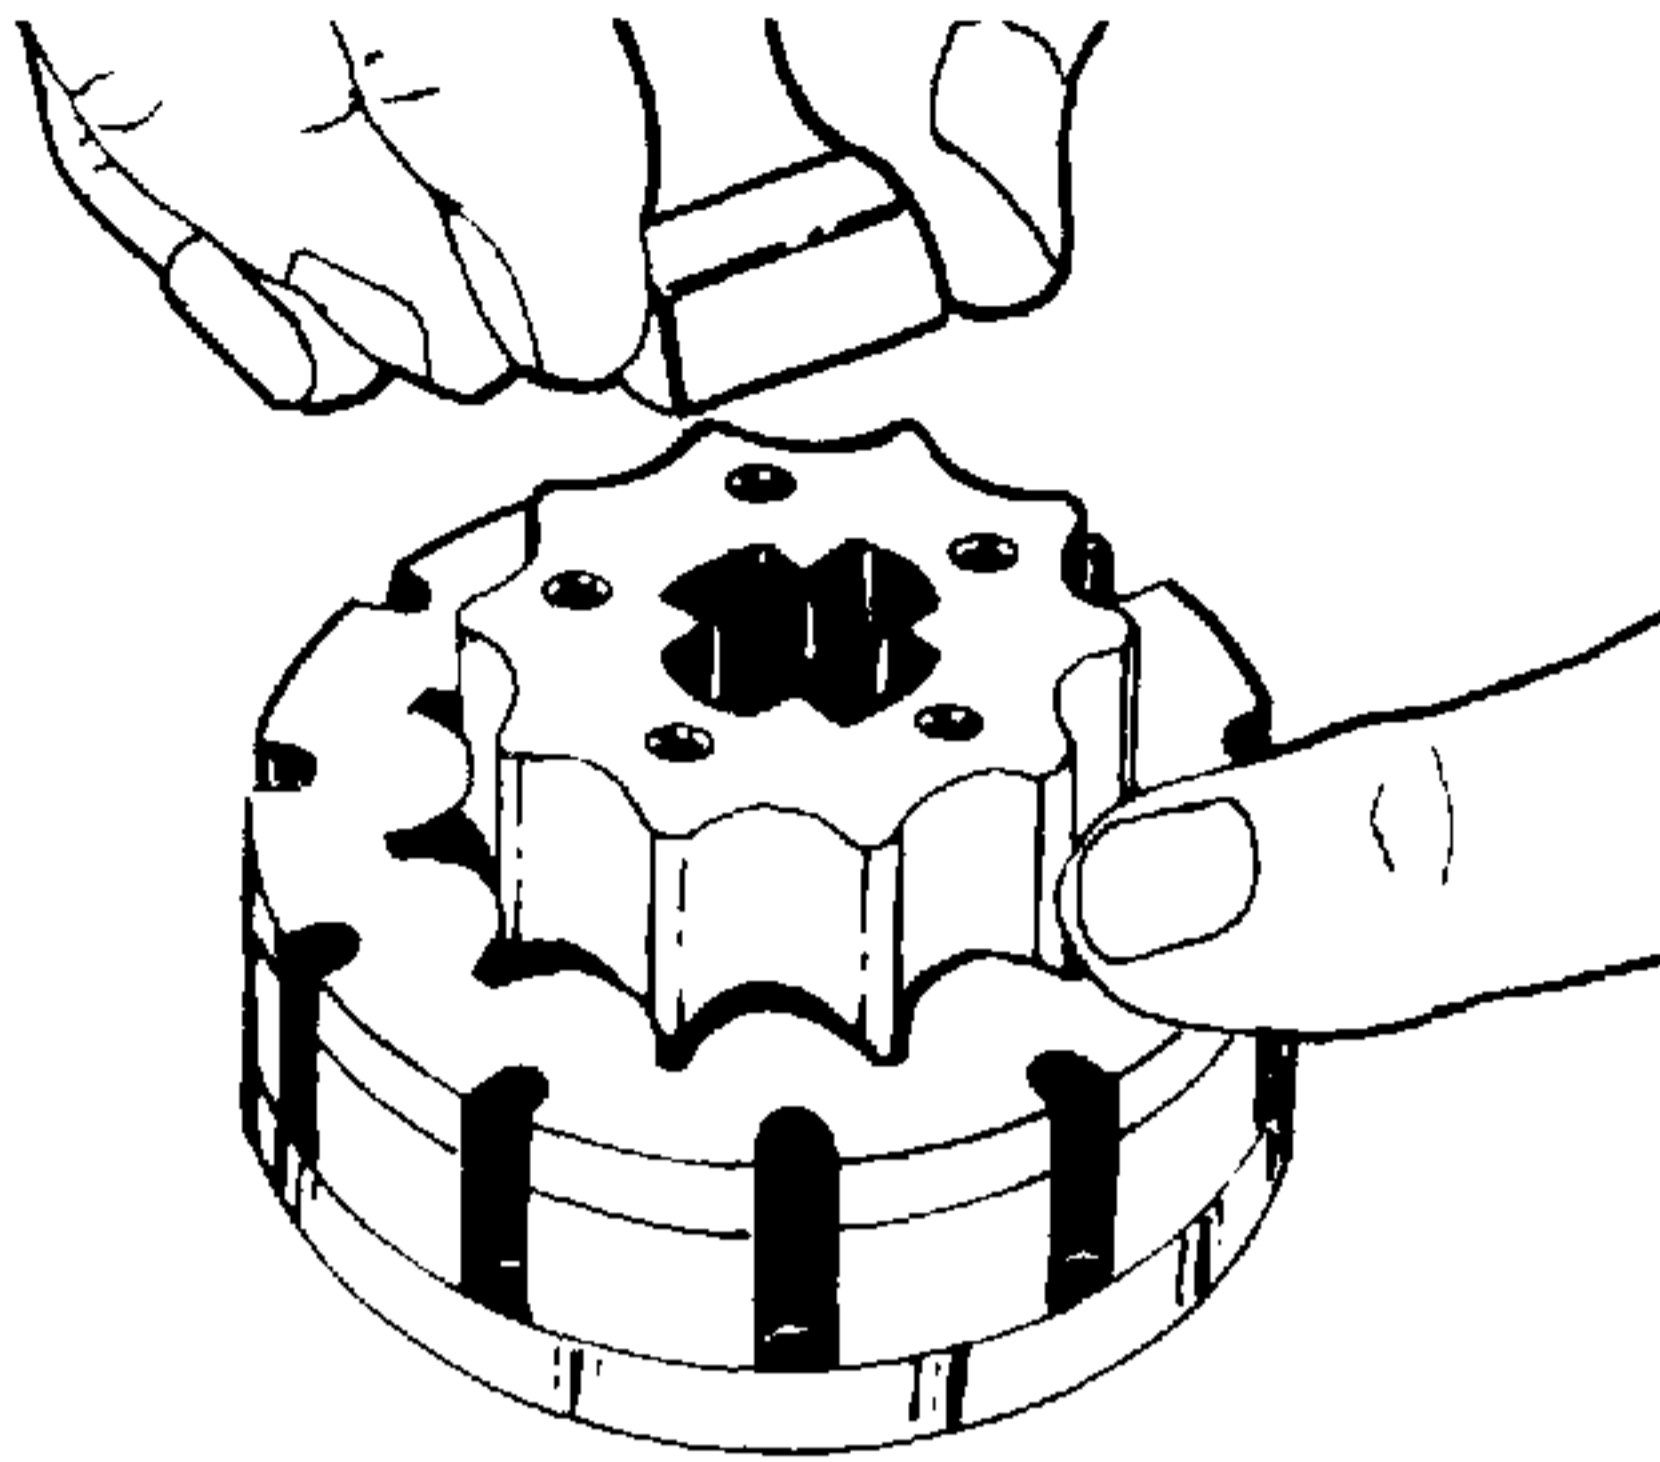

Figure 4-29. Removing Drive Link Spacer.
32. Remove drive link spacer (21, Figure 4-1). See Figure 4-29. Replace it if it is grooved or worn.